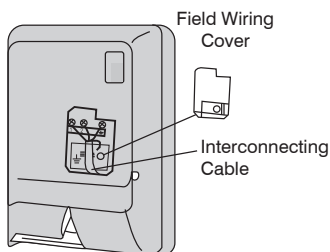

Fig. 18 – Field Wiring Cover
5. Open front cover of indoor unit and remove field wiring terminal block cover (see Fig. 18)